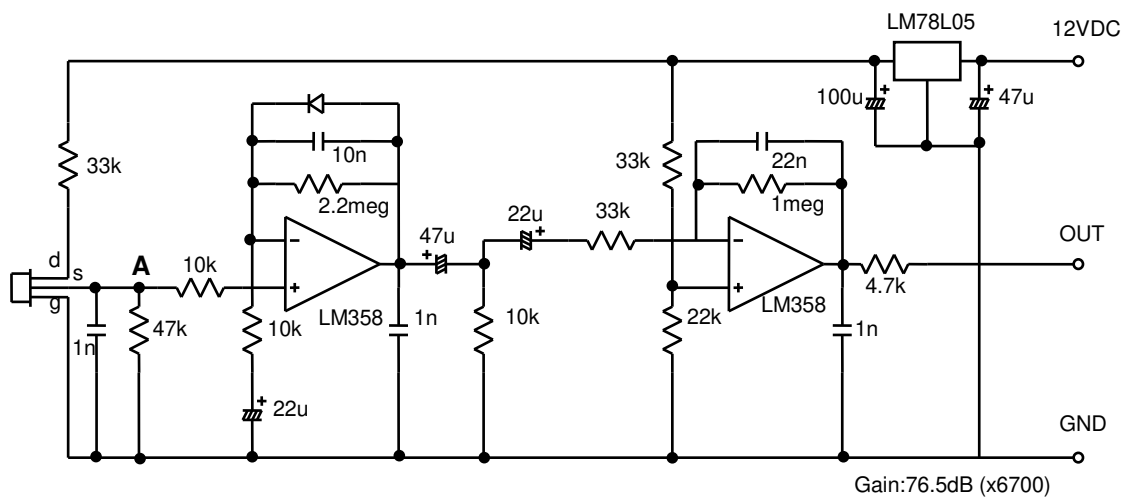

Figure 2. Test circuit
- Test circuit : With the circuit shown in figure2.